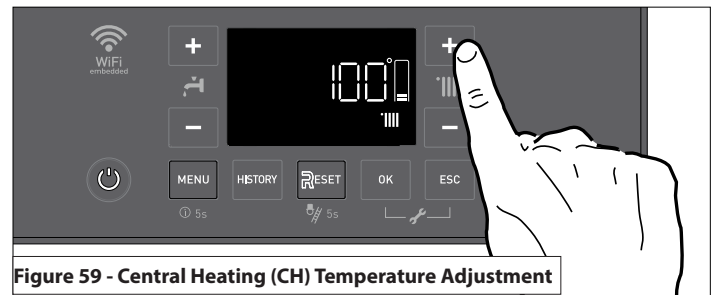

Figure 59 - Central Heating (CH) Temperature Adjustment
C. Central Heating (CH) Temperature Adjustment
It is possible to adjust the central heating (CH) temperature setpoint from the home screen by pressing the CH +/- buttons. See Figure 59. The allowable operating range is limited by the Max and Min Temperature Settings (e.g., Parameters 4.2.5 and 4.2.6) which are adjustable via the Technical Menu. See P. Technical Menu - Access and Navigation.